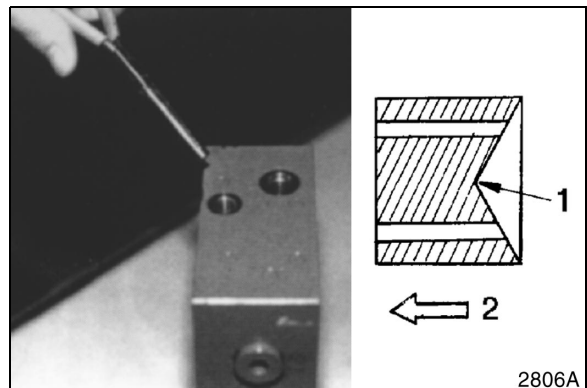

Figure 92
1. Install guide so that side with recess (1) faces up (2). See Figure 92.